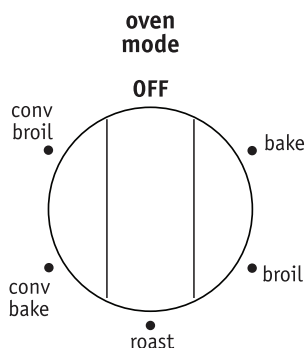

Figure 13: Oven mode knob
3. Turn the **oven mode** knob to the **bake** position (Figure 13).
1. Arrange the oven rack while oven is still cool. Turn the **oven mode** knob to the **broil** position (Figure 13).